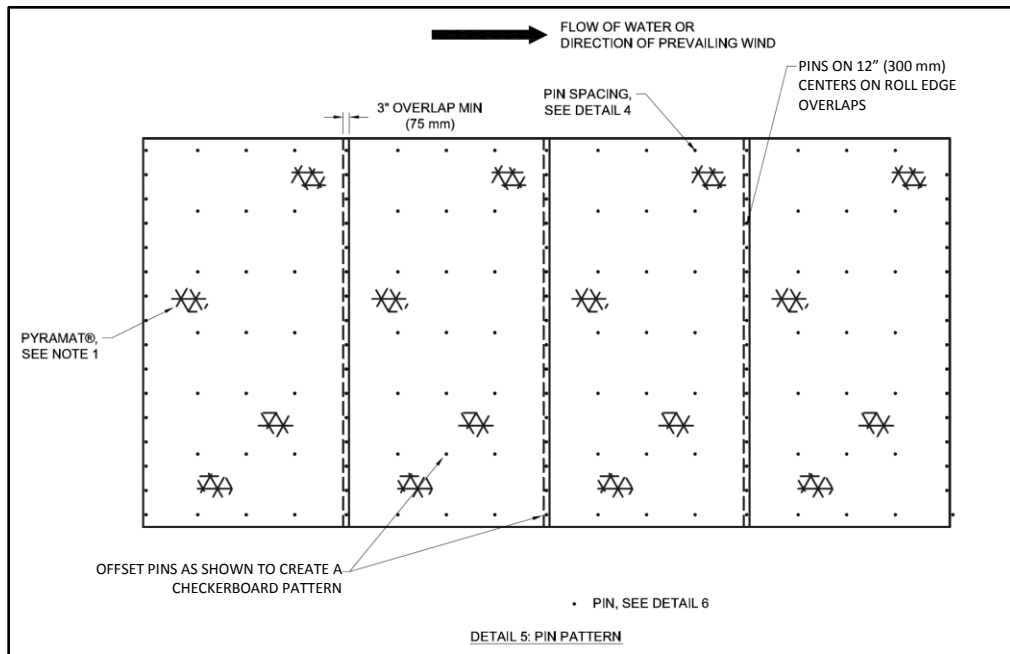

**Figure 6: Placement of PYRAMAT across Slope**
- Unroll the PYRAMAT roll on the slope surface in the area to be armored (Figure 6). Ensure that PYRAMAT has intimate contact with the ground and all irregular surfaces beneath PYRAMAT are removed.